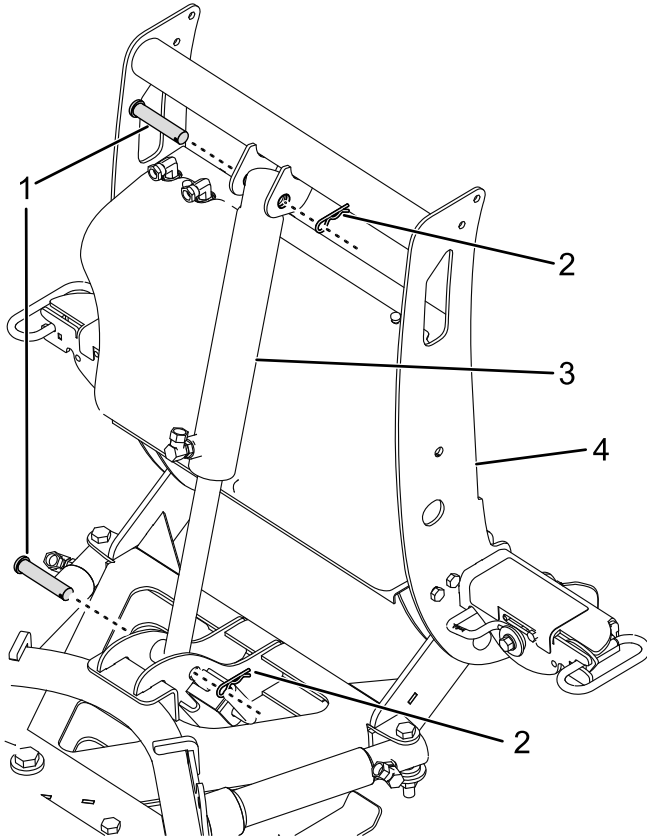

Figure 5
- Secure the rod end of the lift cylinder to the push-frame assembly using a clevis pin and hairpin cotter (Figure 5).
- Secure the free end of the lift cylinder to the coupler tower using a clevis pin and hairpin cotter (Figure 5).